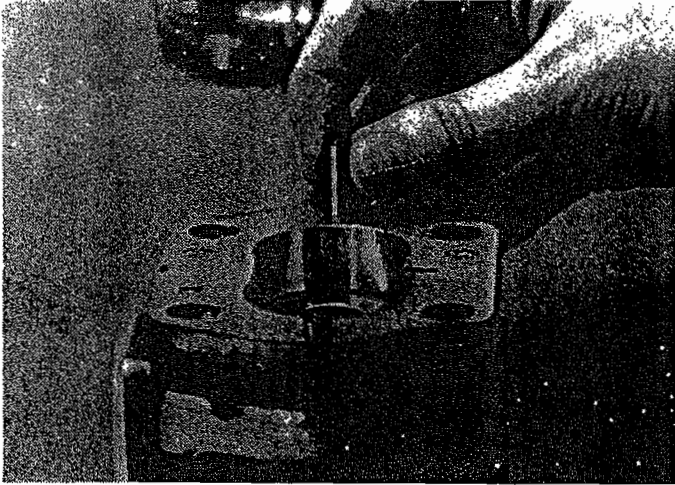

Fig. 12
15. Examine the gear plate (Item 2). You will notice a large and small recess in the plate near the gear bores. The side having the large recess is to be assembled with large recess toward the suction port in the cover plate. Line up dowel holes in gear plate with dowel holes in cover plate and install dowels (Item 5). (Fig. 12)